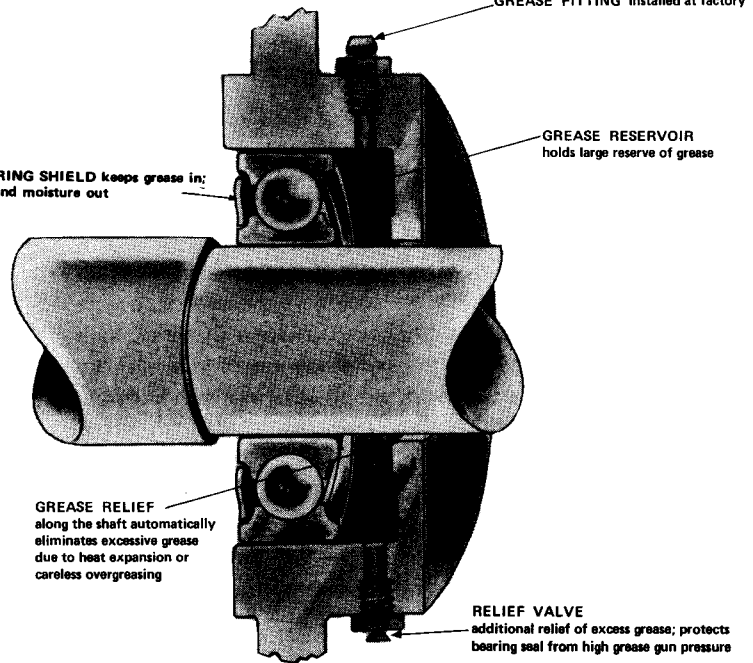

FIGURE 1-7 TYPICAL REGREASABLE BEARING AND BEARING HOUSING CONSTRUCTION
1.3.11 Bearing housings on most Kato Generator Sets over 75 KW in size with an 18 inch diameter or larger stator have grease fittings installed to permit periodic replenishment of grease. Bearing and bearing housings are constructed as illustrated in figure 1-7. A lubrication plate attached to the generator set lists recommended lubrication intervals and amount of grease to be added at each interval.